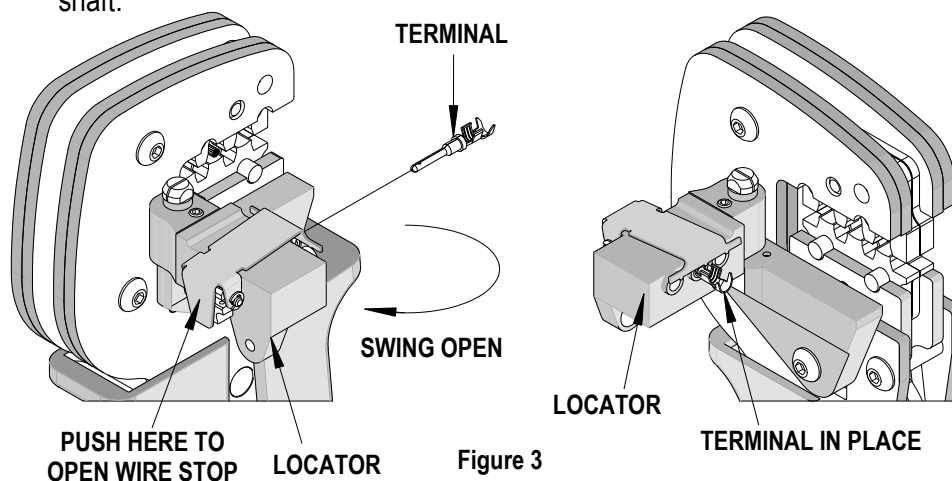

Figure 3
2. Swing the terminal locator away from the crimp tool shown in Figure 3. Some terminals with large insulation grips may interfere with the crimp tooling when swinging the locator into position. The terminal must then be loaded into the locator in the closed crimp position. See Figure 4.